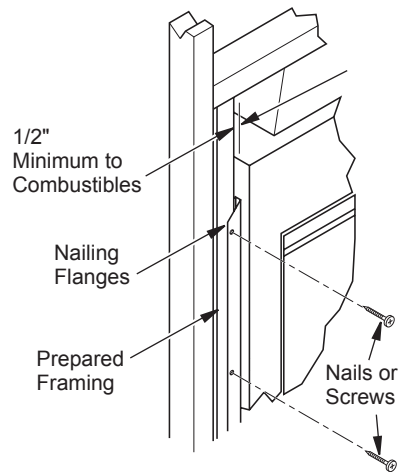

Figure 8 - Nailing Flanges
6. Using screws or nails, secure fireplace to framing through flanges located on sides of fireplace (see Figure 8).